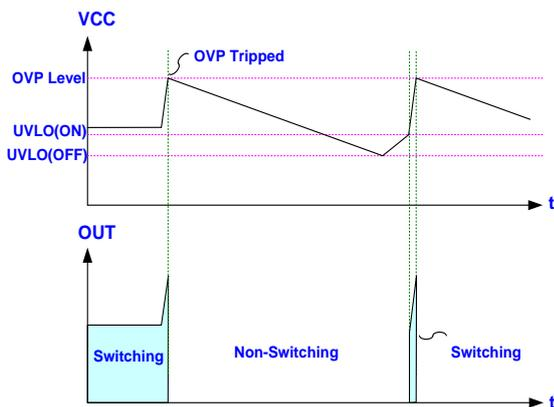

Fig. 21
LD5718AC implements OVP function over VCC pin. As the VCC voltage rises over the OVP threshold voltage, the output drive circuit will be shutdown simultaneously thus to stop the switching of the power MOS until the next UVLO(ON) arrives. The VCC OVP function of LD5718AC is an auto-recovery type protection. The Fig. 21 shows its operation. On the other hand, if the OVP condition is removed, the Vcc level will get back to normal level and the output will automatically return to the normal operation.